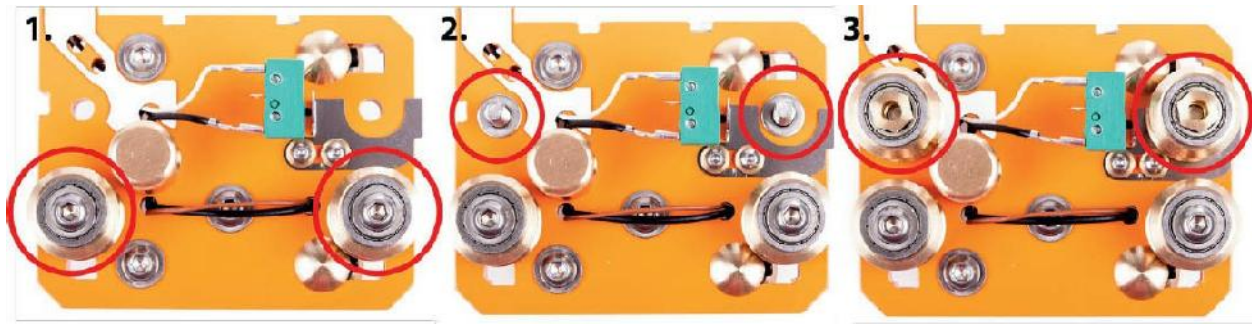

Fig. 2.17 *Mounting the second set of four rollers*
25. Thread two rollers and two M8 washers onto the other end of the roller holders and fasten them with two 10 mm M6 bolts, as shown in figure 2.17 (photo #1).
26. Thread two 20 mm M6 bolts through the holes shown in figure 2.17 (photo #2), place two M6 washers and two rollers on the bolts and fix them in place using roller nuts (photo #3).